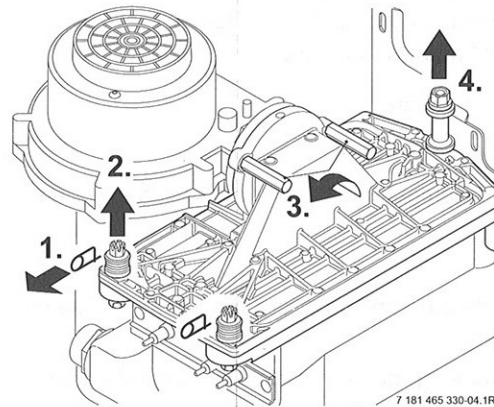

Fig. 50
- ▶ Remove the clips (1) and unscrew the two bolts (2). Refer to fig. 50.
- ▶ Unscrew and remove the two hexagon screws securing the fan (3).
- ▶ Slacken fully the rear securing bolt (4).